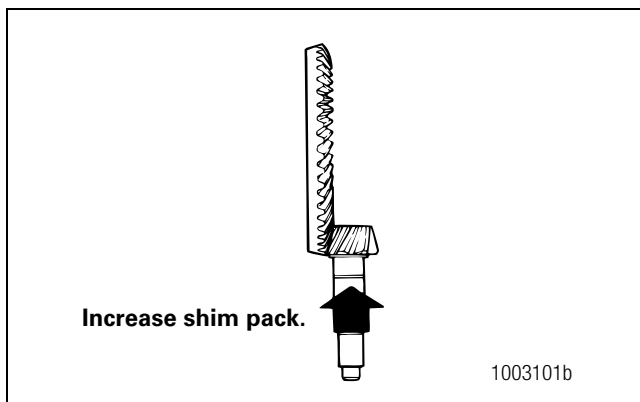

Figure 5.73
- **To correct a low contact pattern:** Increase the thickness of the shim pack under the bearing cage. When increasing the thickness of the shim pack, the drive pinion will move away from the ring gear. Figure 5.73.